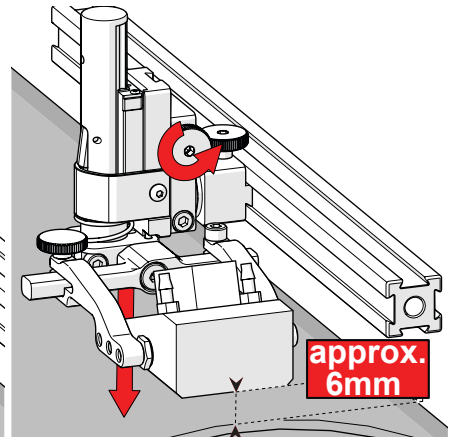

Fig. 59 - Lower toward scan surface
2. Loosen the vertical adjustment knob and slide the probe holder down until the wedge is approximately 6 mm ( $\frac{1}{4}$  in) above inspection surface (Fig. 59).
3. Tighten the vertical adjustment knob (Fig. 59).